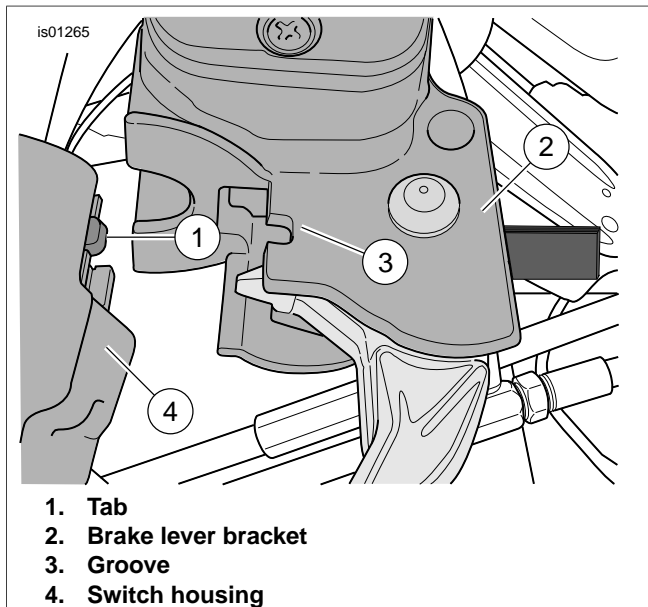

Figure 2. Brake Lever Bracket to Switch Housing
- See Figure 2. Position the brake lever/master cylinder assembly inboard of the switch housing (4) assembly, engaging the tab (1) on the lower switch housing in the groove (3) at the top of the brake lever bracket (2).